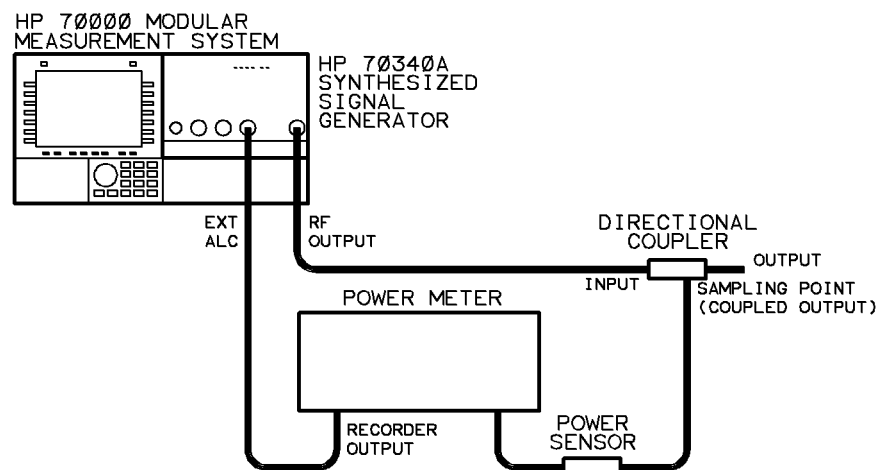

Figure 3-13. External Power Meter Leveling Setup
1. Connect the equipment as shown in Figure 3-13.
To program the signal generator for external power meter leveling, connect the equipment as shown in Figure 3-13 and then run the following program.